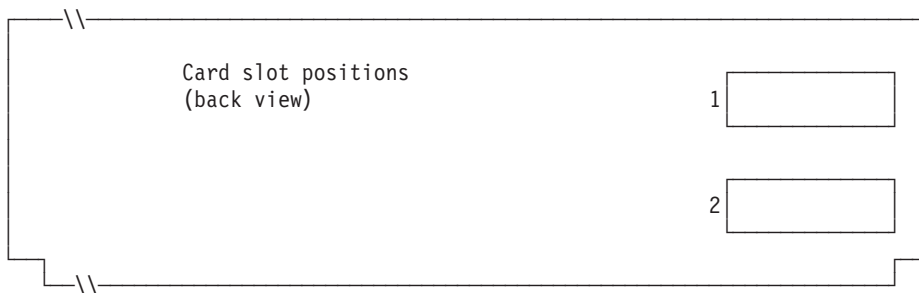

Figure 125. Rear of 4694-205 Point-of-Sale Terminal
4. Mark an X on Figure 125 in each card slot that has a Dual Asynchronous Adapter card installed **for use by terminal applications**. Do not mark an X if the card is to be used by applications other than terminal applications use .